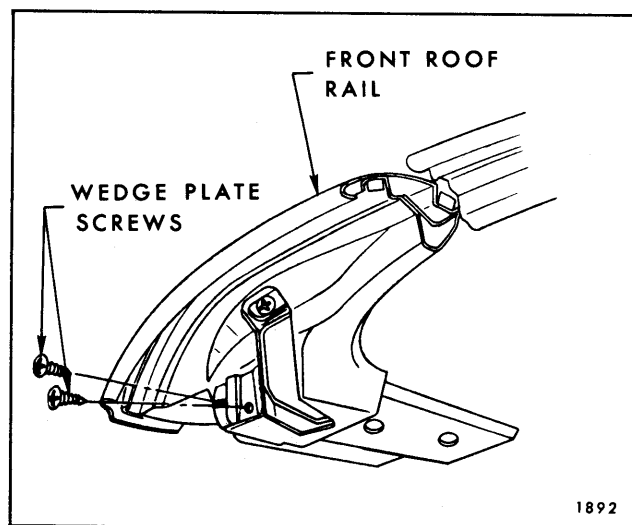

Fig. 13-84—Front Roof Rail Wedge Plate
2. Remove wedge plate by removing inboard and outboard attaching screws (Fig. 13-84).